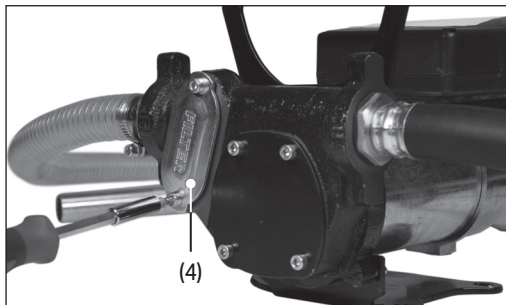

Fig. 8
1. Unscrew and remove the filter access plate (4) (Fig. 8).